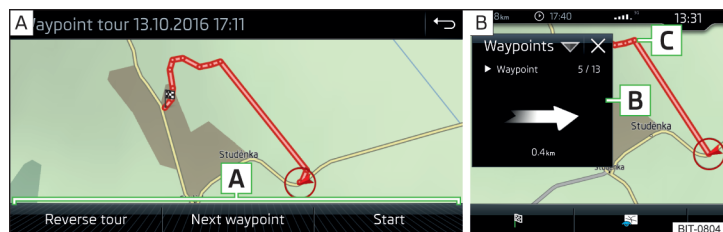

Fig. 223 Display a waypoint / Guide along a waypoint tour
- Select one of the following menus » Fig. 223 - [A].
While driving along a waypoint tour, the split screen shows the **Waypoints** and the direction to drive as well as the distance to the next waypoint, the sequence number of the next waypoint and the total number of waypoints [B] » Fig. 223 - [B].
The waypoint tour from the vehicle position to the next waypoint “reduces” continuously while driving “ ” [C] » Fig. 223.
- > Display the waypoint tour » Fig. 223 on page 193